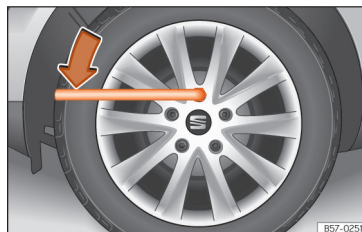

Fig. 195 Tyre change: slacken the wheel bolts.
- Fit the box spanner into the bolt as far as it will go **>>> Fig. 195**.